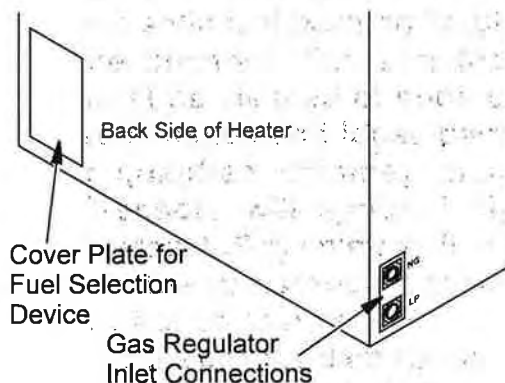

Figure 4 - Gas Control Locations
1. Remove bottom screw from cover plate located on back side of heater (see Figure 4). Rotate to expose fuel selection device.
1. Remove bottom screw from cover plate located on left side of heater (see Figure 4, page 10). Rotate to expose fuel selection device.